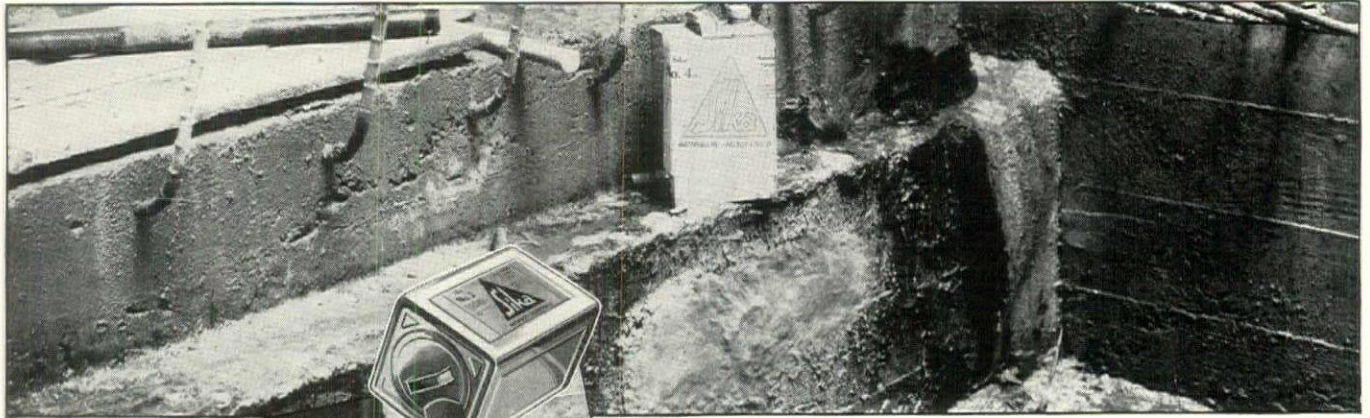
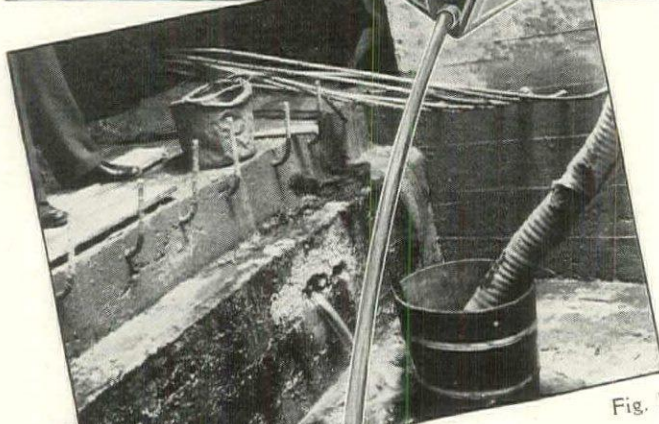
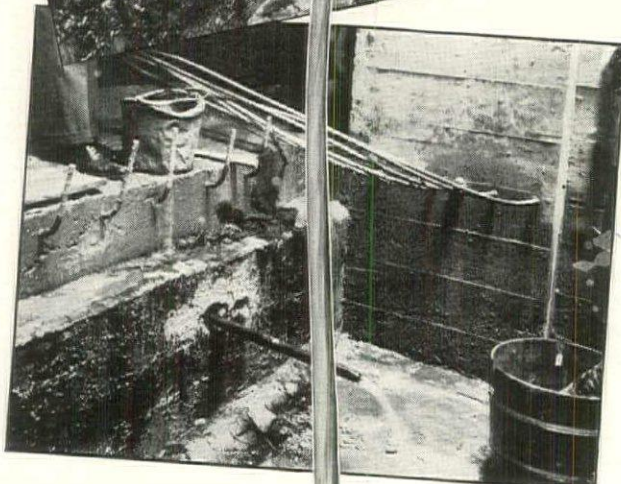

Fig. 3
Fig. 1
Fig. 2
**T**HE leaks were local and each was treated separately. Portland cement concrete mixed with Sika\* No. 4A (Moderately fast setting) was used to fill the cavities leaving a hole as shown in Fig. 1. A pipe was thrust into this hole as in Fig. 2 and neat cement mixed with Sika\* No. 4A (moderately fast setting), filled in around it. The pipe was withdrawn, leaving a small hole through which *all* the water flowed. Then a small plug of neat Portland cement and Sika\* No. 2 (instantaneous setting) was jammed into this small hole. In five seconds the water was stopped. See Fig. 3. It will never leak at those places again.